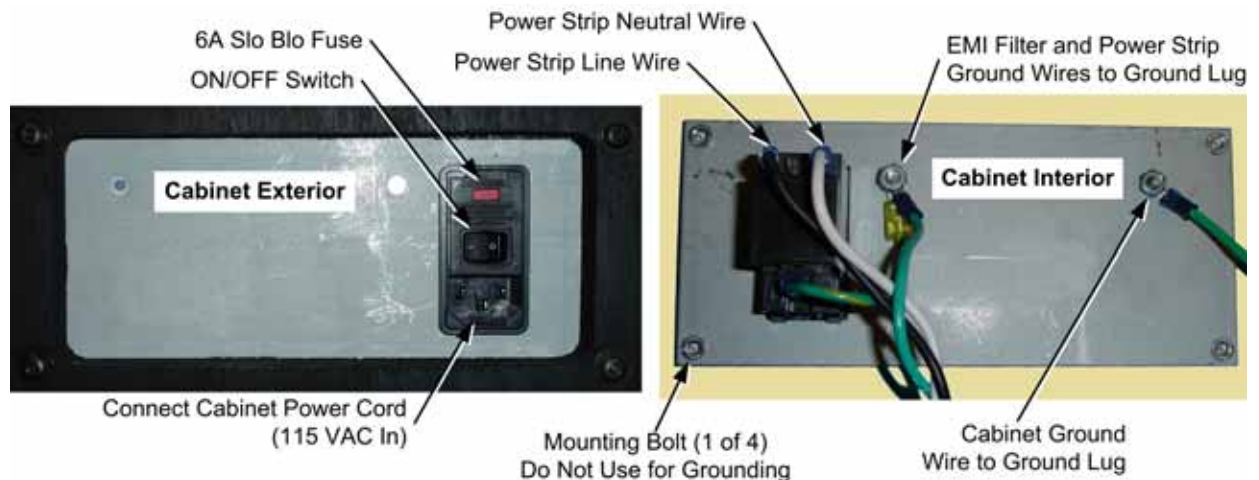

Figure 43. AC Power Plate
The AC power strip provides power and surge protection to all of the components in the cabinet. If the cabinet has no power, check the 6A Slo Blo fuse in the power plate (see Figure 43 for fuse location) and replace if blown. Also make sure the power strip is turned on. Perform the following steps to replace the power strip:
3. Disconnect the power strip wires from the AC power plate terminals shown in Figure 43.
5. Replace the power strip with an appropriate unit from GLOBAL VR (part # 49-0963-40). Do not attempt to use a different power strip. Be sure to connect each wire to the correct terminal (see Figure 43 on page 49, and Figure 52 on page 68).